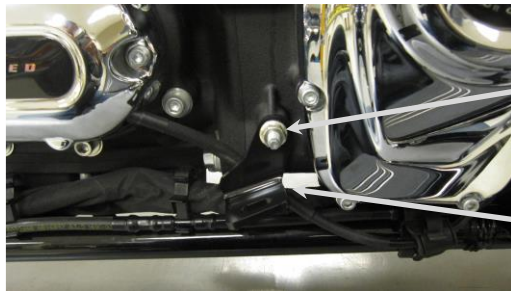

FIGURE 1A
5. Install the supplied headpipe support bracket using the stock nut. On 2017-2020 models route the hydraulic clutch line behind the bracket. On 2021+ models route the clutch cable in front of the bracket. See **FIGURES 1A & 1B**. Lightly snug the nut but **DO NOT TIGHTEN** so the bracket can be adjusted. The bracket should be positioned at a slight angle.